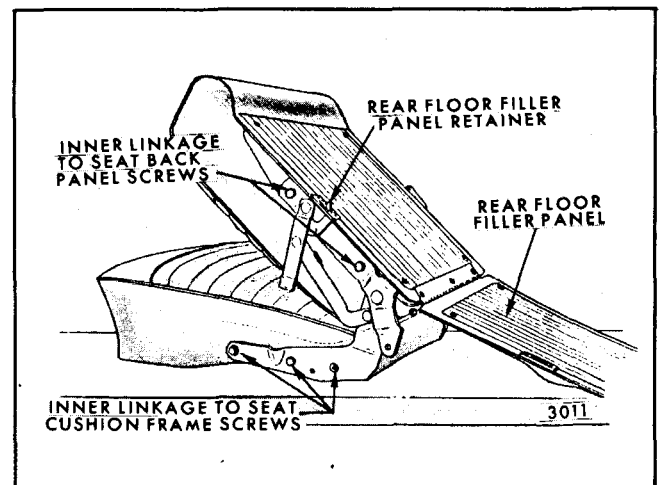

Fig. 14-79-Folding Second Seat Cushion Assembly (Right or Left Side) - Vista Cruiser "66" Style
3. Remove three screws securing inner link to cushion frame; then, remove seat cushion and frame assembly from linkage (Fig. 14-79). If required, remove cushion front and rear floor pan linkage.
3. Remove seat inner linkage-to-seat back panel and seat cushion frame attaching screws; then, disengage and remove side linkage from seat (see Fig. 14-79).